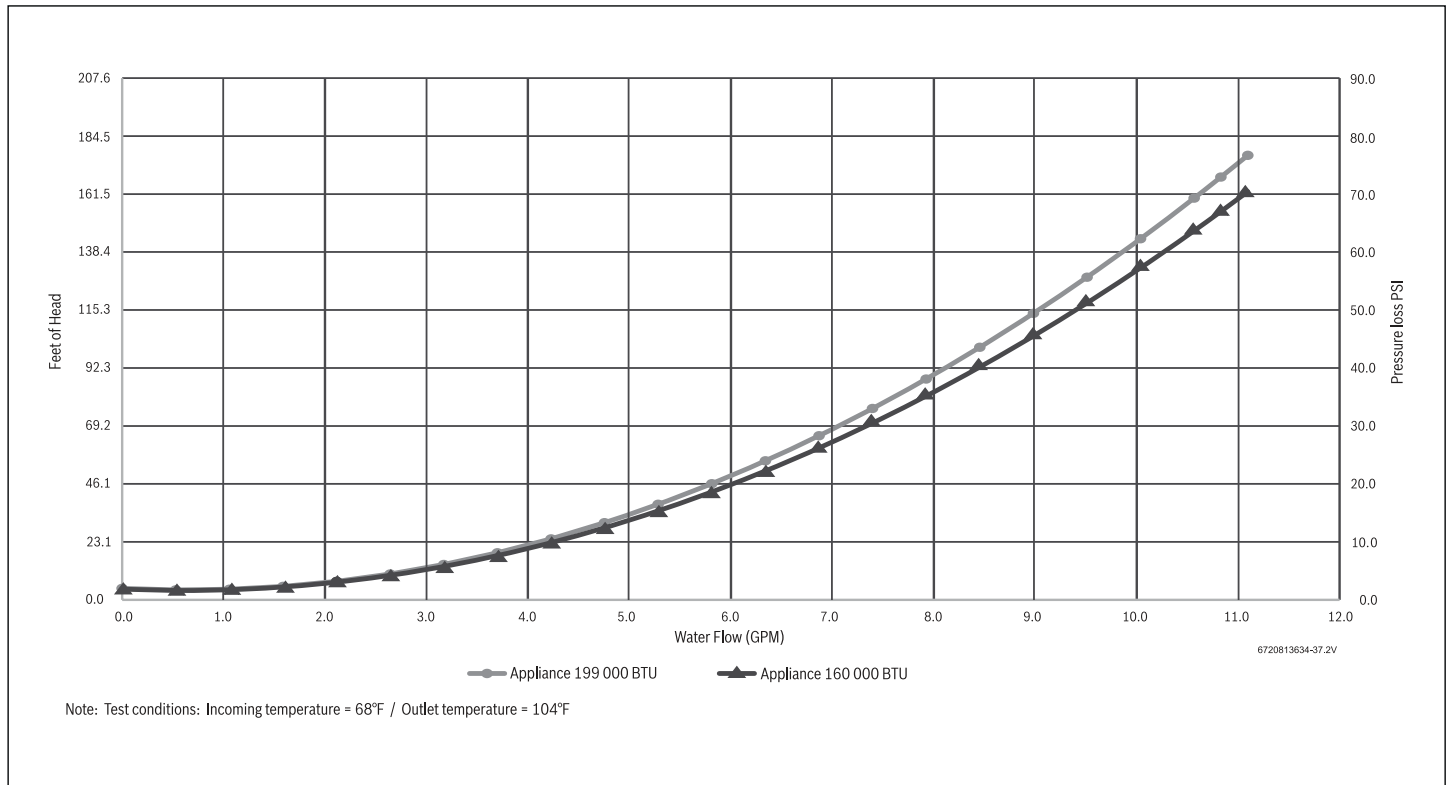

Figure 2
Refer to pump manufacturers flow vs pressure specifications to select a pump that can provide adequate flow while overcoming the pressure loss through the Infiniti® K and the recirculation loop. Refer to figure 2 to determine pressure loss.
9.00 ft	Infiniti® K 199 (See Fig.2, page 10)